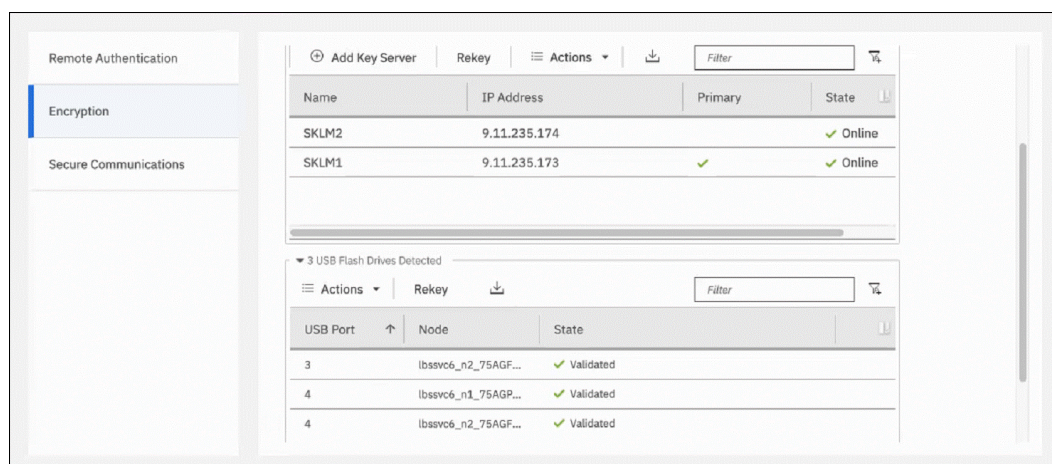

Figure 12-52 Encryption enabled with two key providers available
4. You can confirm that encryption is enabled and verify which key providers are in use by selecting **Settings** → **Security** → **Encryption**, as shown in Figure 12-52. Notice the **Online** state of the key servers and the **Validated** state of the USB ports where USB flash drives are inserted to make sure that they are correctly configured.